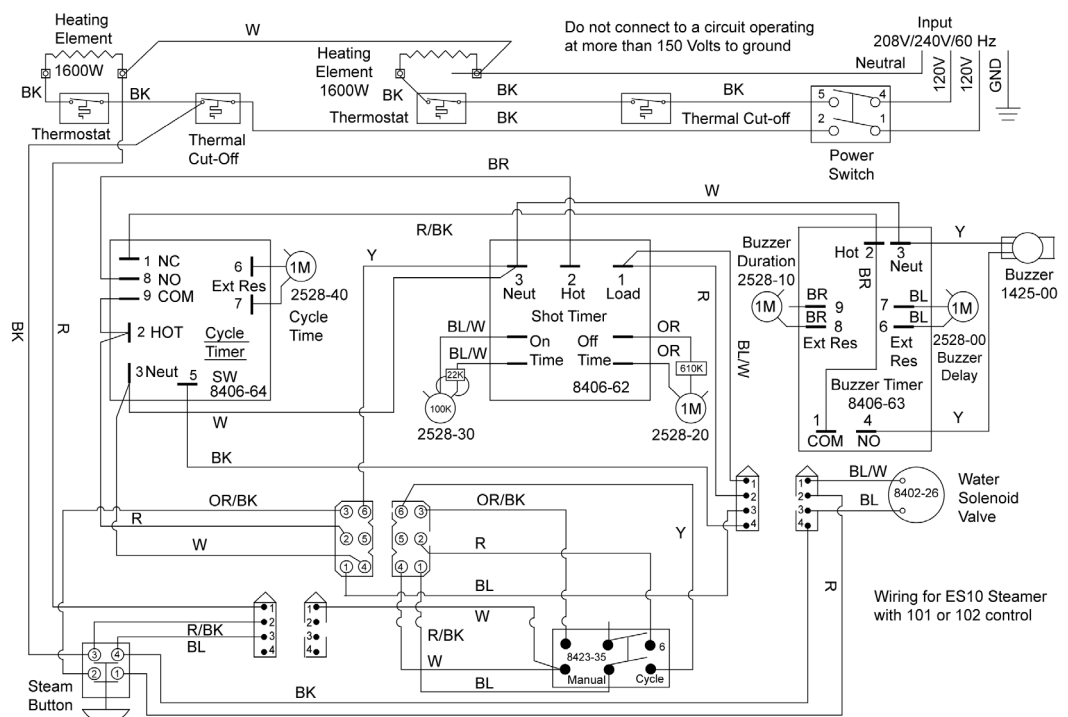

Figure 1: Wiring Diagram
Standard ES10 Steamers are designed for use with 208 VAC to 240 VAC, 4 (3 pole with ground) wire, single phase, 60 Hz, electrical service. (See Figure 1).
**Electrical.** Female twist-lock receptacle, supplied loose with the steamer, should be installed by a qualified electrician. Refer to wiring diagrams. Figure 1.
**NOTE:** Female receptacle must be wired to assure that voltage to the individual heating elements does not exceed 150 volts. (Circuits R-W and BK-W on Fig 1 and 2.) G terminal is wired to Ground. W terminal is wired to neutral. Protect circuit with a 15 amp double pole circuit breaker.